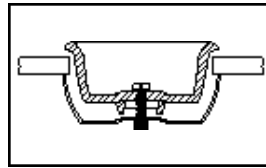
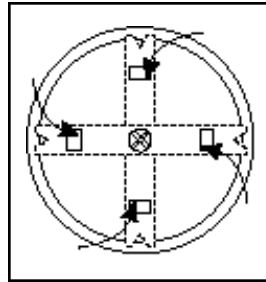

Figure 3
Figure 4
10. Press the assembly into the 2" hole until the clamp edge is below the mounting surface, then tighten the screw. The cup will clamp down to the surface as the screw is tightened (Figure 3). In the case of a thick mounting surface, the legs of the clamp can be bent outward by inserting a screwdriver through the four rectangular holes in the cup while still mounted (Figure 4)